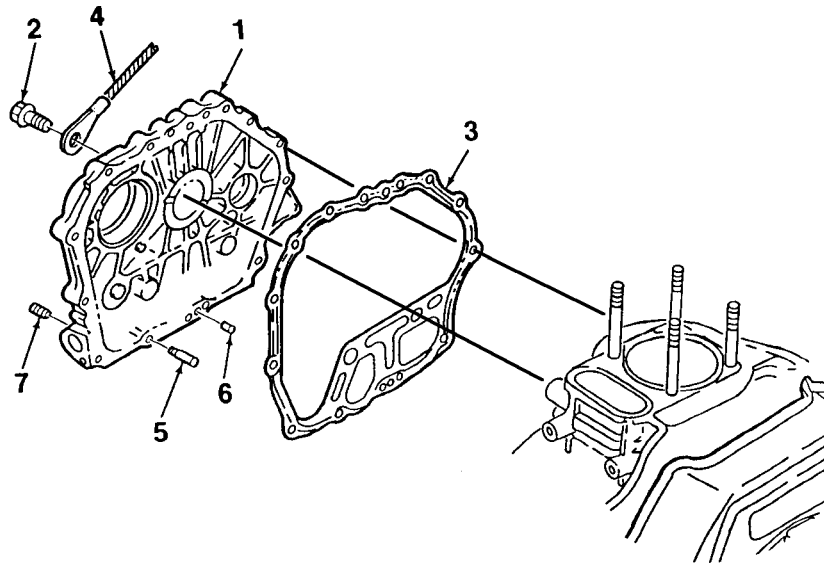
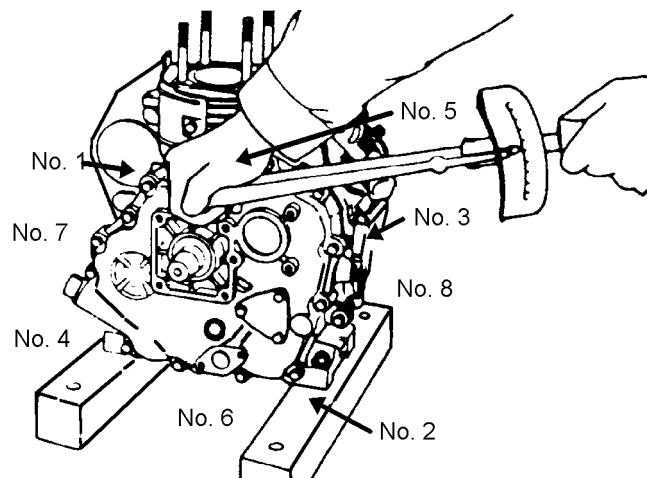
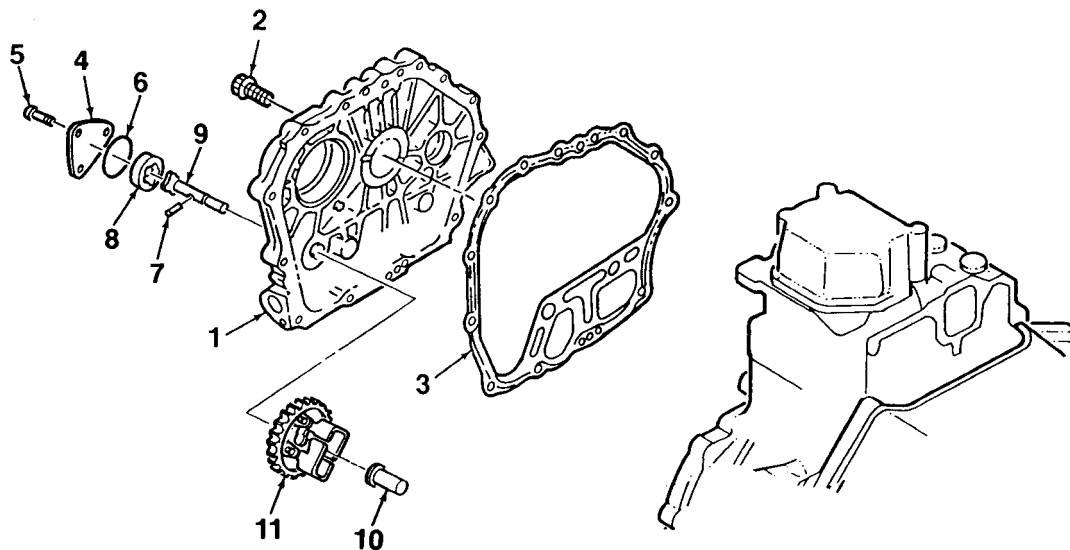

Figure 4-4. Crankcase Cover Installation
Figure 4-5. Crankcase Cover Bolt Tightening Sequence
Figure 4-10. Oil Pump Installation
1. Inspect crankcase cover (1, Figure 4-4) for cracks, deformation, or obvious damage. Inspect cover mating surfaces for scratches, burrs, or blemishes. Replace cover if damaged.
2. Inspect cover gasket (3) for damage or deformation. Replace if damaged in any way.
1. If removed, install threaded plug (7, Figure 4-4), pipe (5), and two guide pins (6) into crankcase cover (1).
2. Apply grease to lips of crankshaft oil seal (housed in crankcase cover (1)).
4. Mate cover gasket (3) to cylinder block.
5. Mate crankcase cover (1) to cylinder block and secure using fifteen screws (2). Make sure to attach lifting cable (4) at position noted during removal. Tighten screws in criss-cross sequence as shown in Figure 4-5. Torque all screws to 14.5 to 16.6 ft-lbs. (200 to 230 kg-cm).
1. Insert oil pump (9, Figure 4-10) into crankcase cover (1) and install parallel pin (7). Coat oil pump rotor with oil, and install outer rotor (8).
2. Coat new O-ring (6) with oil and install into crankcase cover (1). Install oil pump cover (4) using three screws (5).
3. Install new governor assembly (11) and pin (10).
4. Apply grease to lips of crankshaft oil seal (installed in crankcase cover (1)).
6. Mate cover gasket (3) to cylinder block.
7. Mate crankcase cover (1) to cylinder block and secure using fifteen screws (2). Tighten screws in criss-cross sequence as shown in Figure 4-5. Torque all screws to 14.5 to 16.6 ft-lbs. (200 to 230 kg-cm).